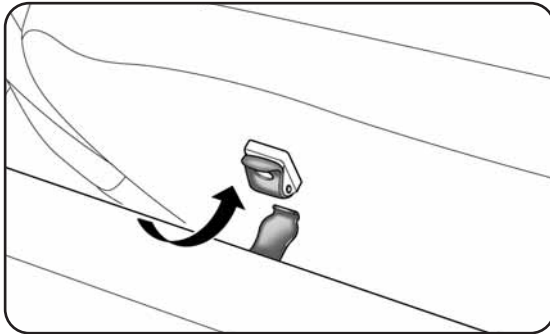

fig. 60
- release the attachments from the rear seat backrests fig. 60;